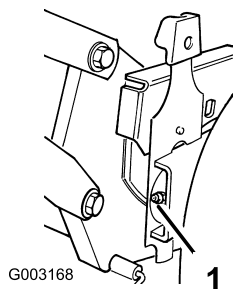

Figure 24
2. Wipe the grease fittings with a clean rag (Figure 24).